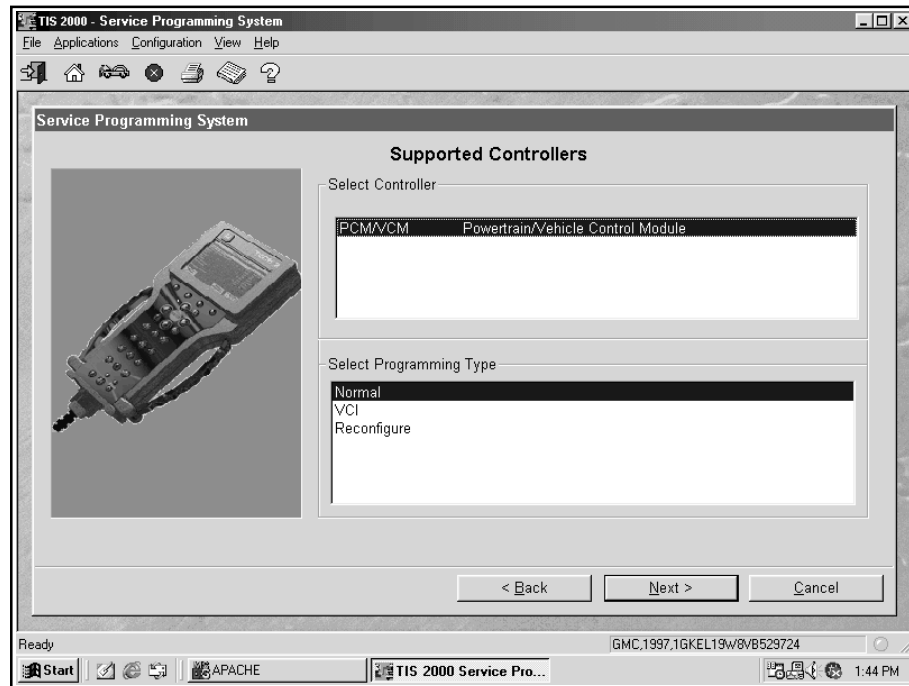

Figure I-8, Identify Controller Type
- 2.8 A Supported Controllers screen (Figure I-8) will appear asking to identify the type of controller being programmed. Some vehicles may have more than one programmable controller examples include PCM, BCM, IPC. Select the appropriate controller for the vehicle being serviced.